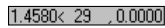

**Figure 4-17:** Dynamic polar coordinates.
- ♦ **Dynamic polar coordinates (relative):** Polar coordinates that change continuously as you move the mouse, as shown in Figure 4-17. They appear after you've already specified a point and are ready to specify the next point, as when you're in the process of drawing a line.